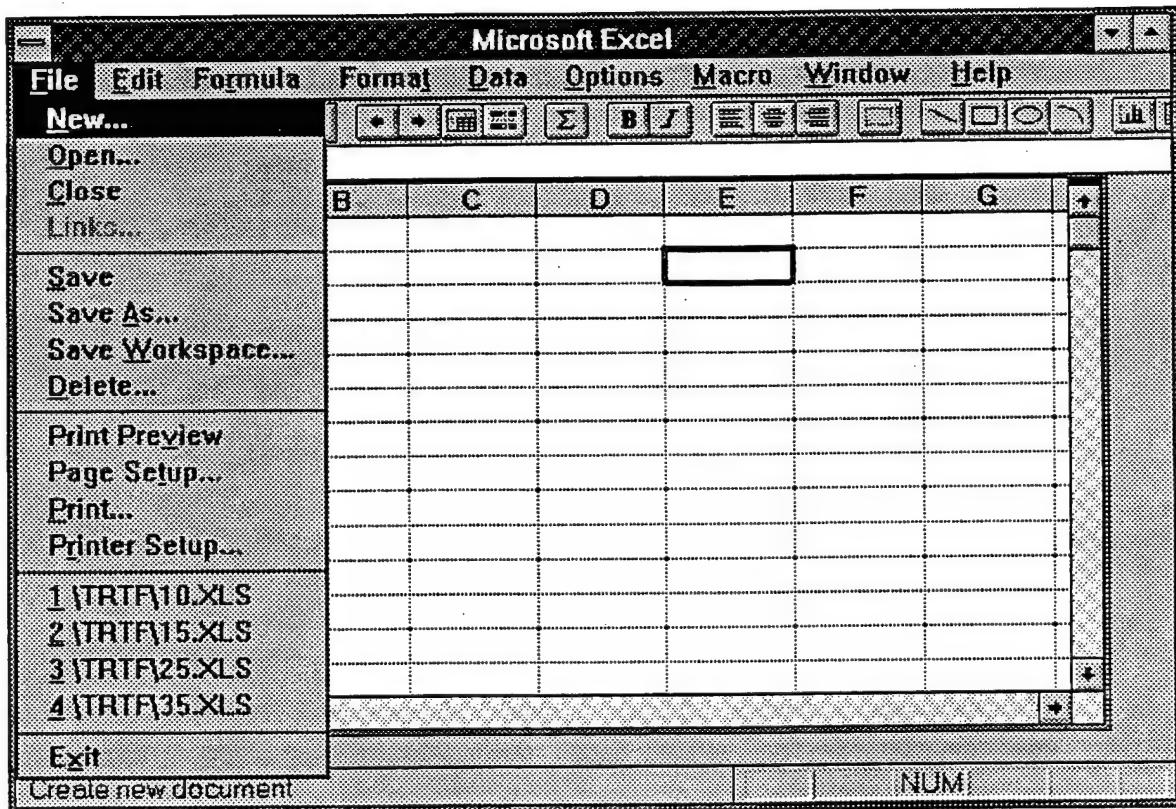

Figure 3-9. Microsoft Excel.
1. Position cursor on EXCEL 3.0a of Program Manager and execute double click. Microsoft Excel (Figure 3-9) will appear.